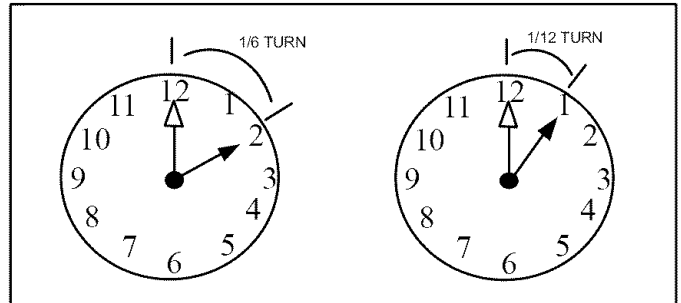

Figure 1. Cap Tightening Distances
- *Without Torque Wrench:* Finger tighten and use an appropriately sized wrench to turn an additional 1/6 turn clockwise as illustrated in figure 1.
- *Without Torque Wrench:* Finger tighten and use an appropriately sized wrench to turn an additional 1/12 turn clockwise as illustrated in figure 1.